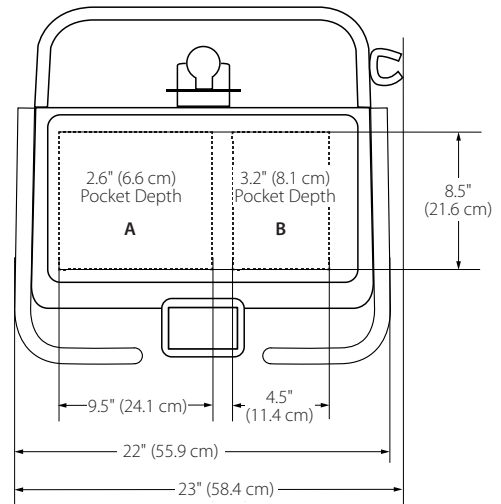

Figure 4
- Secure CPU storage section (**Figure 4**)
- Section A: 9.5" (24.1 cm) W x 8.5" (21.6 cm) L x 2.6" (6.6 cm) H (**Figure 4**)
- Section B: 4.5" (11.4 cm) W x 8.5" (21.6 cm) L x 3.2" (8.1 cm) H (**Figure 4**)